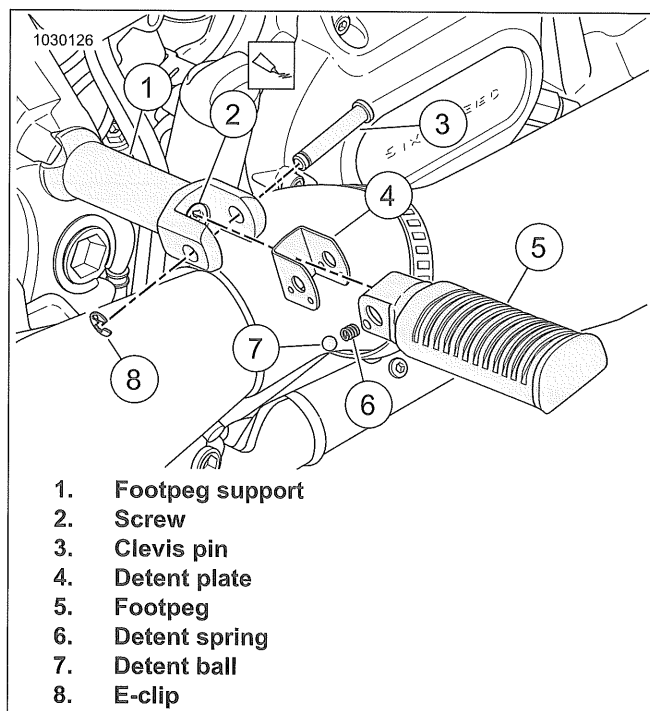

Figure 3-140. Passenger Footpeg
1. See Figure 3-140. Remove footpeg.
- a. Remove e-clip (8).
1. See Figure 3-140. Install footpeg support (1).